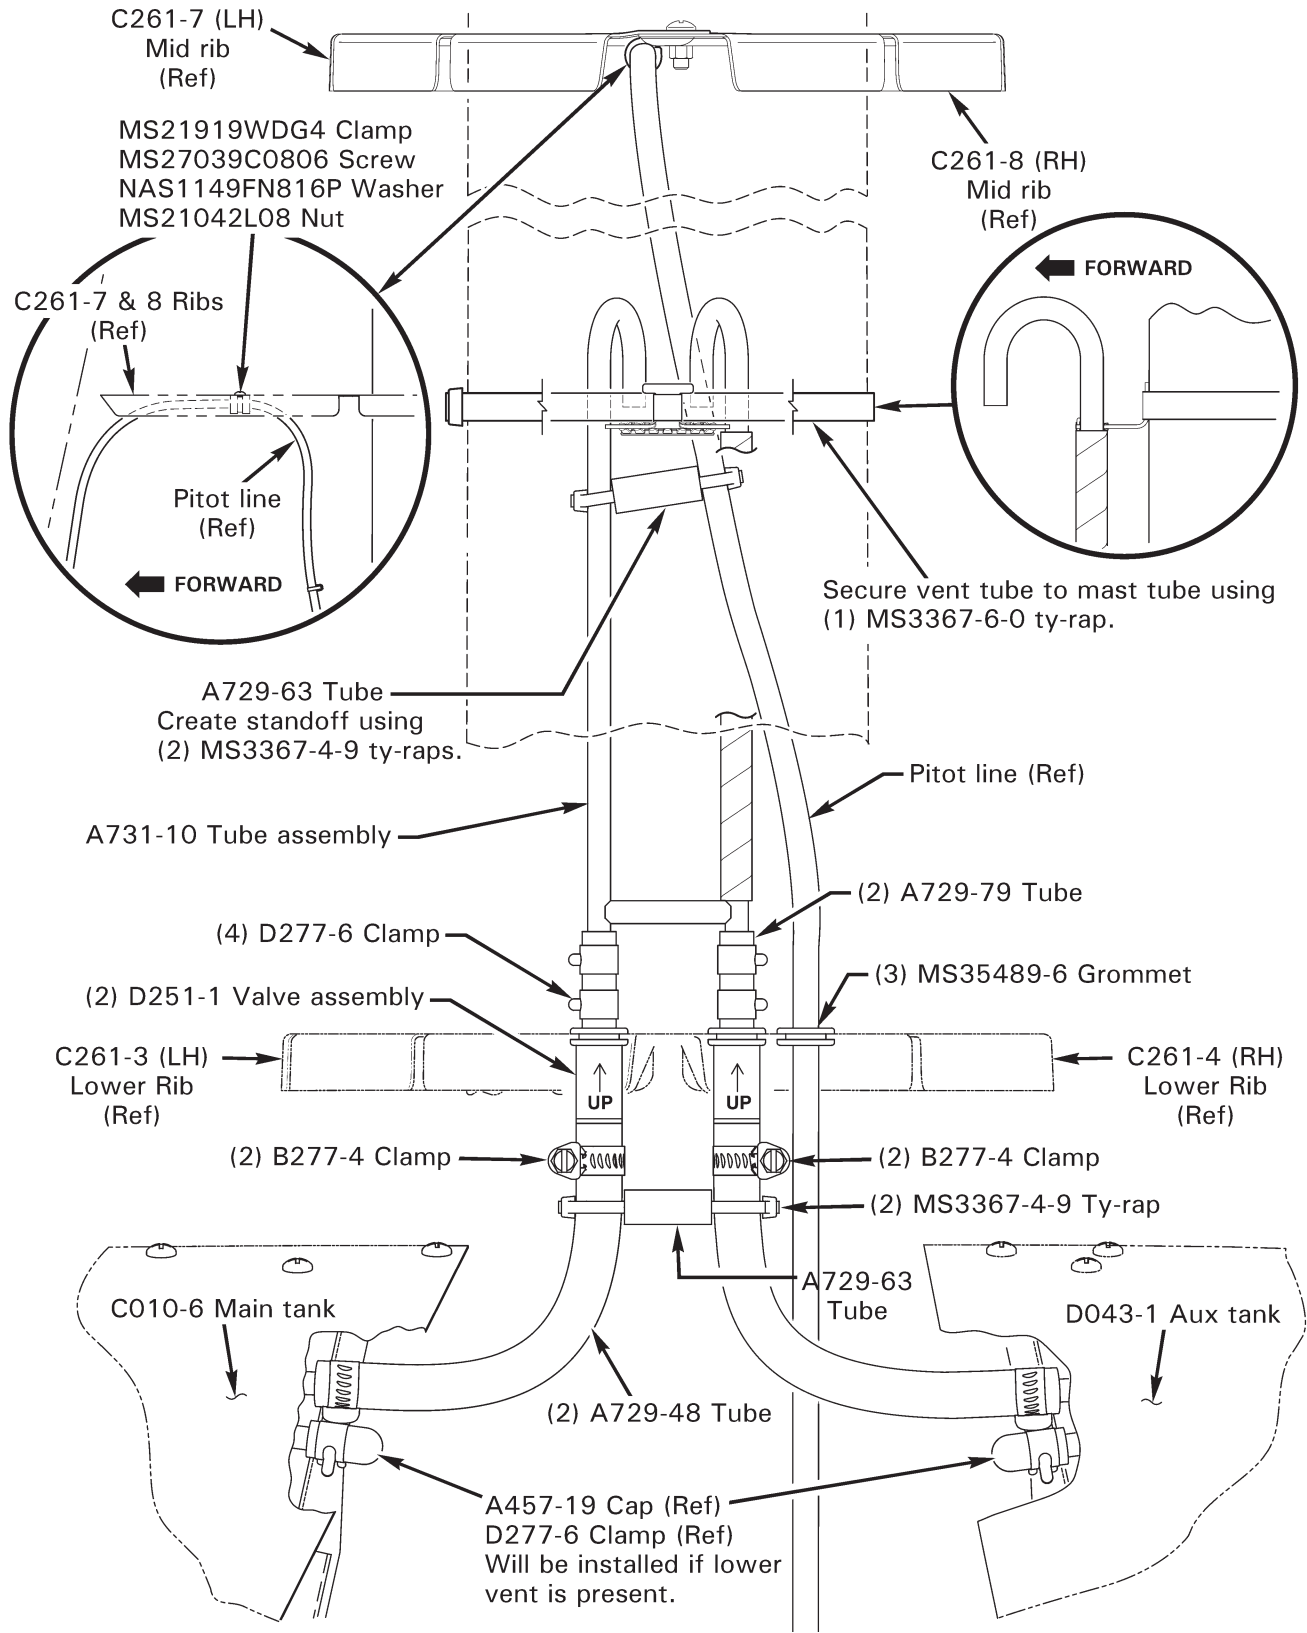

FIGURE 5 Fuel tank vent system installation
Installation of A457-19 cap and D277-6 clamp (see Figure 5) may be accomplished prior to installing tanks on the helicopter.
16. Refer to Figure 5. Install A457-19 cap(s) on lower fuel (main & aux) tank vent fittings and secure using D277-6 clamp(s). Install (3) new MS35489-6 grommets in lower ribs. Observe orientation markings and install (2) D251-1 rollover vent valve assemblies through lower rib grommets and attach A729-48 (tank vent) tubes using (2) B277-4 clamps. Install (2) A729-79 tubes to valve assemblies and secure using (2) D277-6 clamps.
19. Refer to Figure 5. Route pitot line through grommet in rib. Create stand off and secure pitot line to A731-10 tube assembly (left-side tube) using A729-63 tube and ty-raps as shown. Position MS21919WDG4 clamp around pitot line and secure clamp to C261-7 & -8 mid ribs using hardware shown. Connect pitot line to pitot tube. Perform pitot system leak test per MM § 13-10.